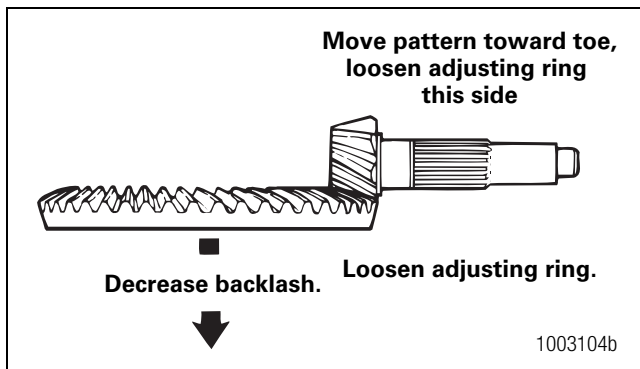

Figure 5.72
- B. Increase the backlash to move the contact patterns toward the heel of the ring gear teeth. Figure 5.72.